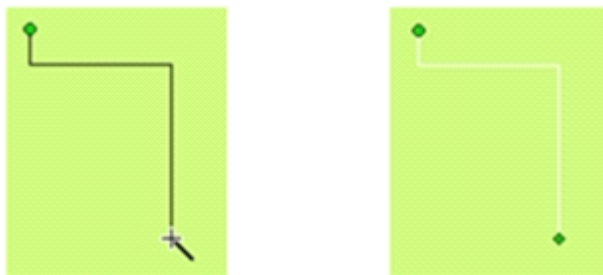

Figure 4-32: Drawing a straight connection line
- Move the mouse to another position in the screen, and at this moment the system will draw a straight connection line automatically. Left click or right click the mouse to complete straight connection line drawing. See Figure 4-32.